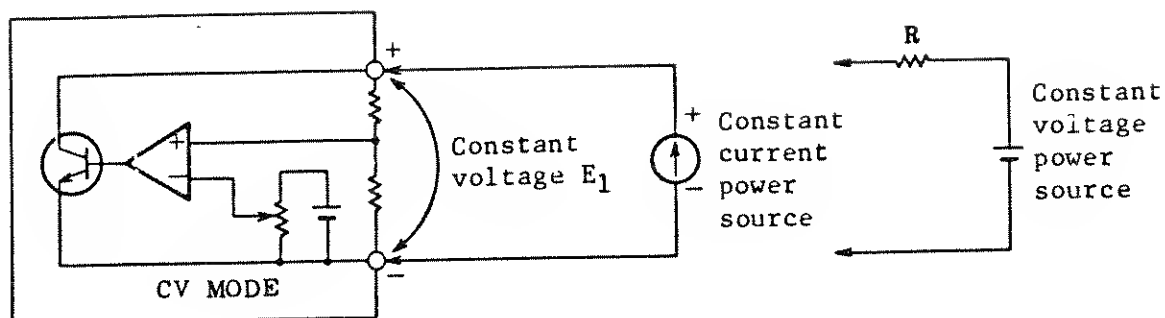

Figure 2-9-1
1. This mode is available by applying a constant current power source to the DC INPUT terminals with the shunt regulator method. This mode is used mainly for tests and adjustments of the current limit characteristics of a DC constant voltage stabilizing power source having power capacity of 300 W or less. Fig. 2-9-1 shows the basic circuit diagram.
As shown by the Fig. 2-9-1, connecting a constant voltage power source, to which a constant current power source or an impedance is connected in series, a shunt regulator is constituted. The value of the constant voltage E_1 may be varied within the range of 5 V - 60 V DC with use of the CV dial. A yellow LED will be lit during the CV mode. The operating method for the constant voltage mode is explained below: